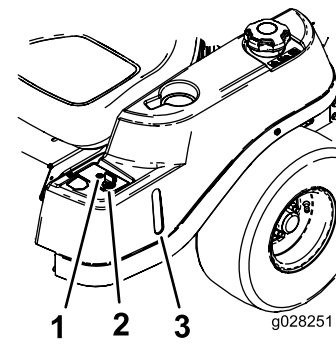
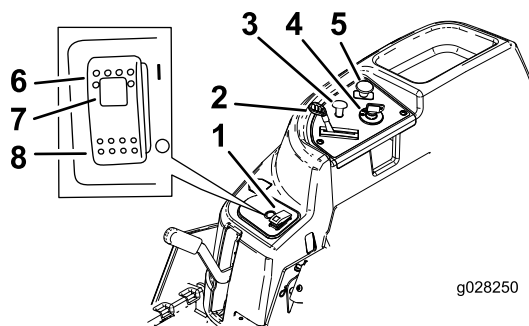

Figure 6
Figure 5
Become familiar with all controls in Figure 5 and Figure 6 before you start the engine and operate the machine.
The ignition switch has 3 positions—OFF, RUN, and START. The key turns to the START position and moves back to the RUN position upon release. Turning the key to the OFF position stops the engine. Always remove the key when leaving the machine to prevent someone from accidentally starting the engine (Figure 5).
Use the choke to start a cold engine. Pull the choke knob up to engage it. Push down the choke knob to disengage it (Figure 5).
The throttle control is variable between the FAST and SLOW positions. Moving throttle lever forward increases the engine speed and moving it rearward decreases the engine speed (Figure 5).
The blade-control switch (PTO) engages and disengages power to the mower blades (Figure 5).
Use the fuel window, located on the left side of the machine, to verify the presence of gasoline in the tank (Figure 6).
This switch allows you to mow in reverse when it is activated. To activate it, turn the switch to the ON position and release it after the PTO is engaged. To deactivate it, disengage the PTO (Figure 6).
- Press the SmartPark™ switch to the ON position (Figure 5).